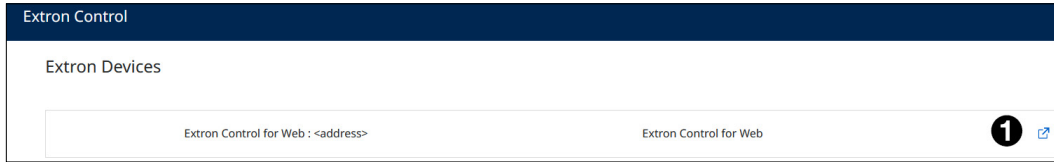

Figure 3. vTLP Selection Page
4. Click box to launch vTLP page (see figure 3, ❶).